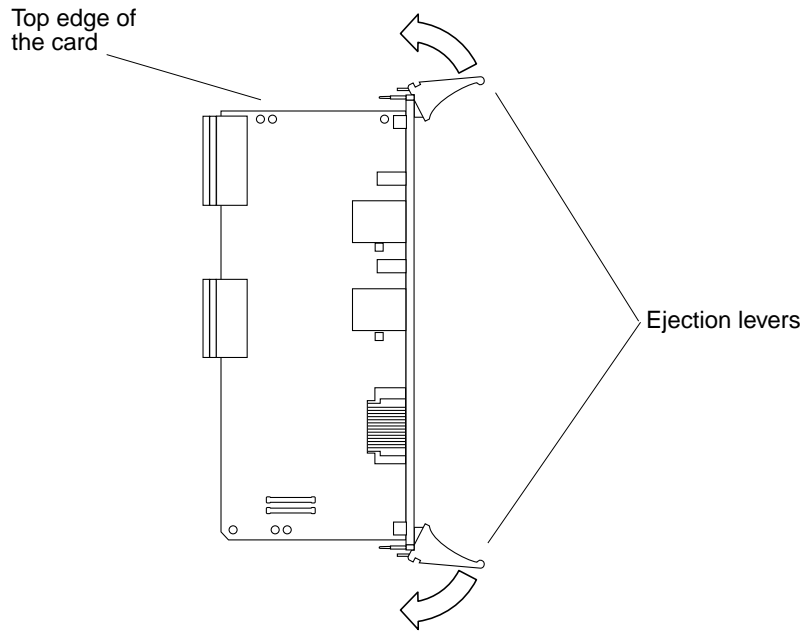

FIGURE 2-6 Opening the Rear Transition Card's Ejection Levers
5. With the card resting on the mat, press the ejection levers on the card outward to open them (FIGURE 2-6).